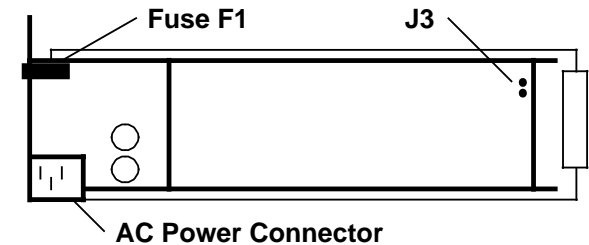

Figure 5.
16. Reinstall fuse. Ensure power cord is disconnected from terminal. Remove power supply from terminal. Place power supply on insulated surface. Connect jumper across pins of J3 (Figure 5). Connect power cord from wall outlet to power supply. Both LEDs of power supply come on.